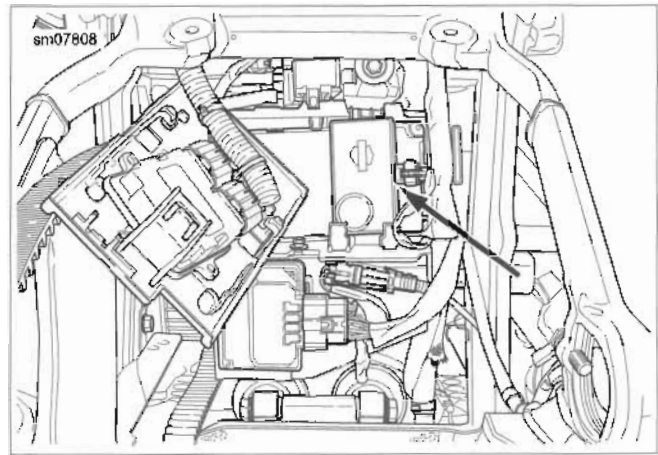

Figure 7-17. Security Siren
5. See Figure 7-17. Disconnect electrical connector.
1. See Figure 7-17. Install security siren.